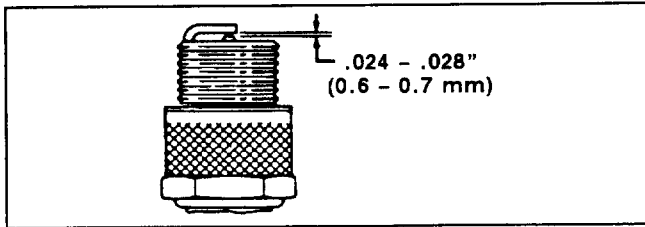

Figure 17
3. Set air gap at .024 – .028" (0.6 – 0.7 mm) (Fig. 17). Install correctly gapped spark plug and gasket seal. Tighten plug firmly to 9 ft-lb (1.2 Kg-m).